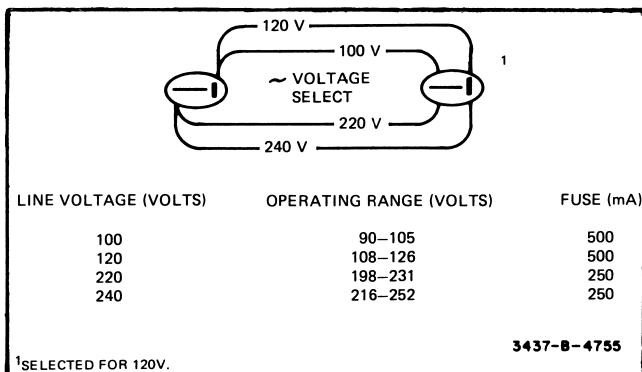

Figure 2-1. Line Voltage Selection.
*Verify that the 110 V/220 V Line Voltage Selection switch, (Figure 2-1) located on the rear panel of Model 3437A, is set to the ac source voltage to be used before inserting the power cord and turning the instrument on. Also insure that the proper fuse is installed.*